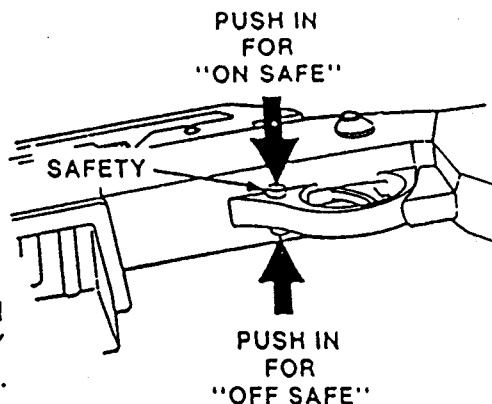

FIG. 1
- A. To put the air rifle "On Safe", locate the safety directly in front of the trigger. Push the safety from the left side all the way in. (Fig. 1) The safety is not on unless it is pushed all the way in. The air rifle will not fire when "On Safe"